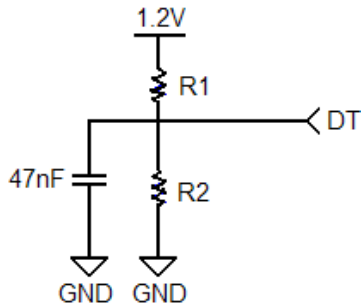
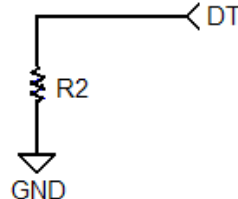
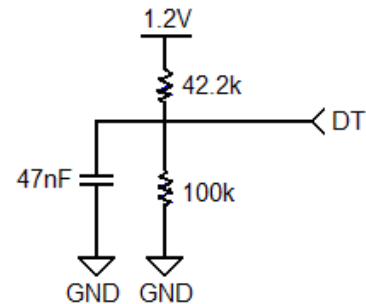

FIGURE 17a
FIGURE 17b
FIGURE 17c
The QLx4600-SL30 is capable of maintaining periods of line silence on any of its four channels by monitoring each channel for loss of signal (LOS) conditions and subsequently muting the outputs of a respective channel when such a condition is detected. A reference current applied to the detection threshold (DT) pin is used to set the LOS threshold of the internal signal detection circuitry. Current control on the DT pin is done via one or two external resistors. Nominally, both a pull up and pull down resistor are tied to the DT pin (figure 17a), but if adequate control of the supply voltage is maintained to within $\pm 3\%$ of 1.2V, then a simple pull down resistor is adequate (as in figure 17b). Resistors used should be at least 1/16W, with $\pm 1\%$ precision.
The internal bias point of the DT pin, nominally 1.05V, is used in conjunction with the voltage divider (R1 and R2) shown in Figure 17a to set the reference current on the DT pin.
For channels exhibiting more than 25dB of total loss (this includes cable or FR-4 loss) the DT pin should be configured for a reference sink current (coming out of the DT pin) of approximately 2 μ A. A typical configuration for a 2 μ A sink current is given in Figure 17c. If the configuration in Figure 17b is utilized, a 525k Ohm resistor would be used.